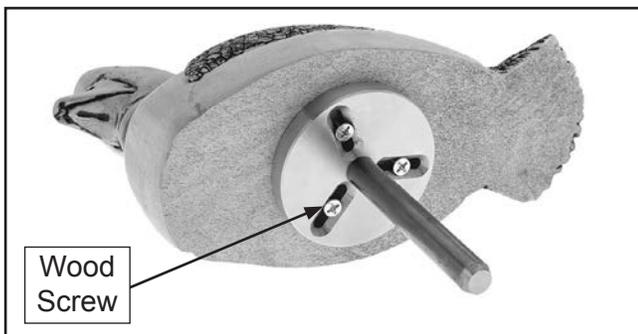

Figure 15. Example of workpiece attached to optional BE1210 faceplate.
4. Position faceplate on workpiece and attach with wood screws (see **Figure 15**).